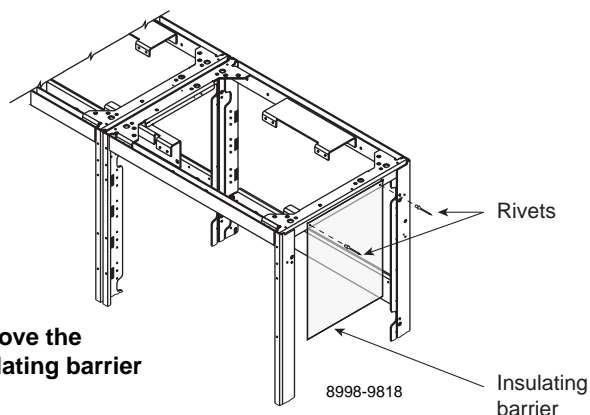

Figure 2: Remove the insulating barrier
4. Remove the clear insulating barrier (see Figure 2) from the leftmost section of the existing MCC by punching out the rivets that are holding the barrier in place. Repeat this procedure for the barrier, if supplied, in the rightmost section of the MCC being added. Discard both barriers.
4. Remove the clear insulating barrier (see Figure 2 on page 1) from the rightmost section of the existing MCC by punching out the rivets that are holding the barrier in place. Repeat this procedure for the barrier, if provided, located in the leftmost section of the MCC being added. Discard both barriers.